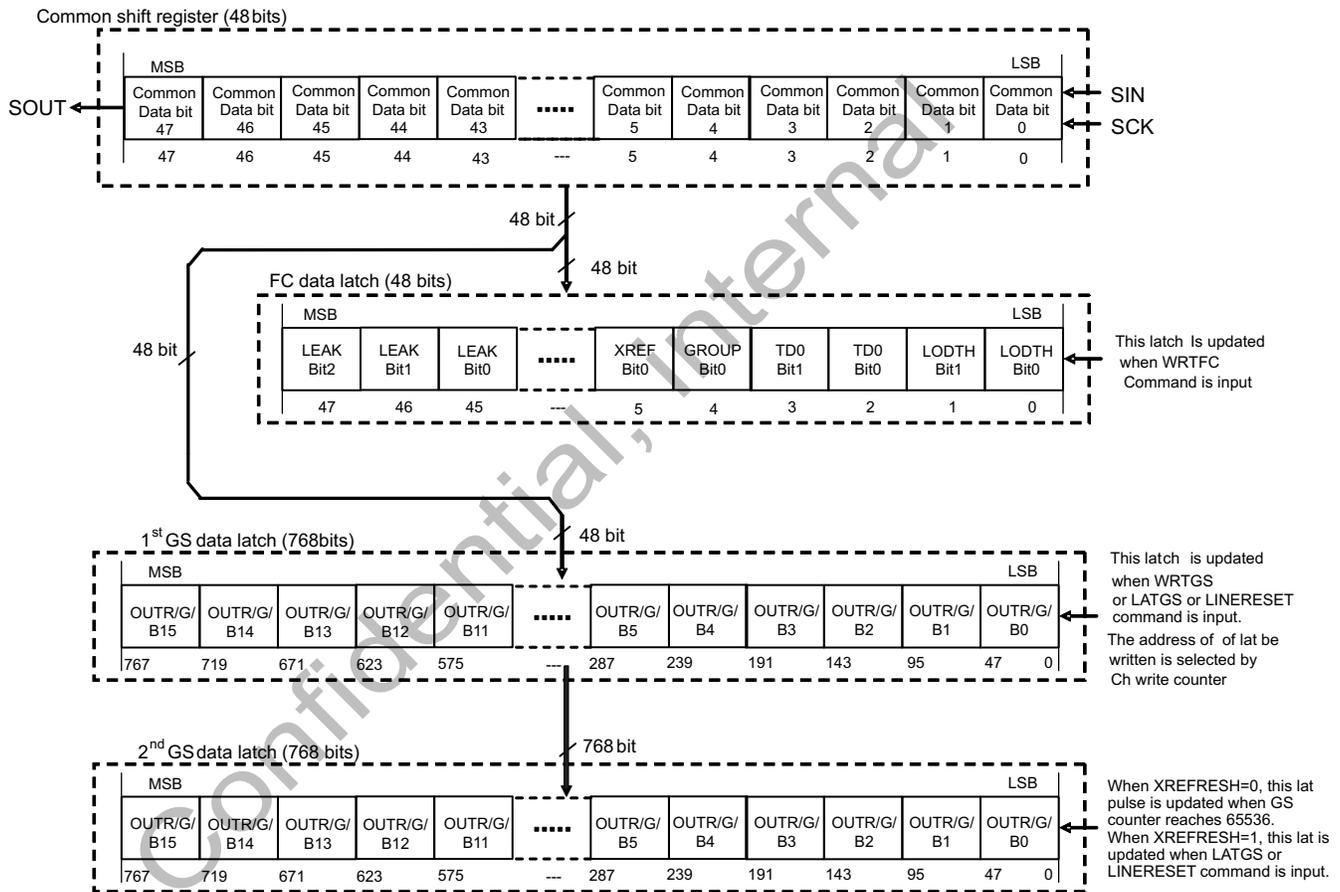

Figure 8. Shift Register and Data Latch Structure
The TLC5957 has one common register, one function control (FC) data latch, and two GS data latches: 1st GS data latch and second GS data latch. A common shift register is 48-bits long, LSB is connected with the SIN pin, and MSB is connecting with SOUT. The 1st GS data latch is a 768-bit register, it stores the new updated GS data. The second GS data latch is 768-bits long, and controls the on-time of all constant current outputs. Figure 8 shows the structure of common shift register and GS data latch.